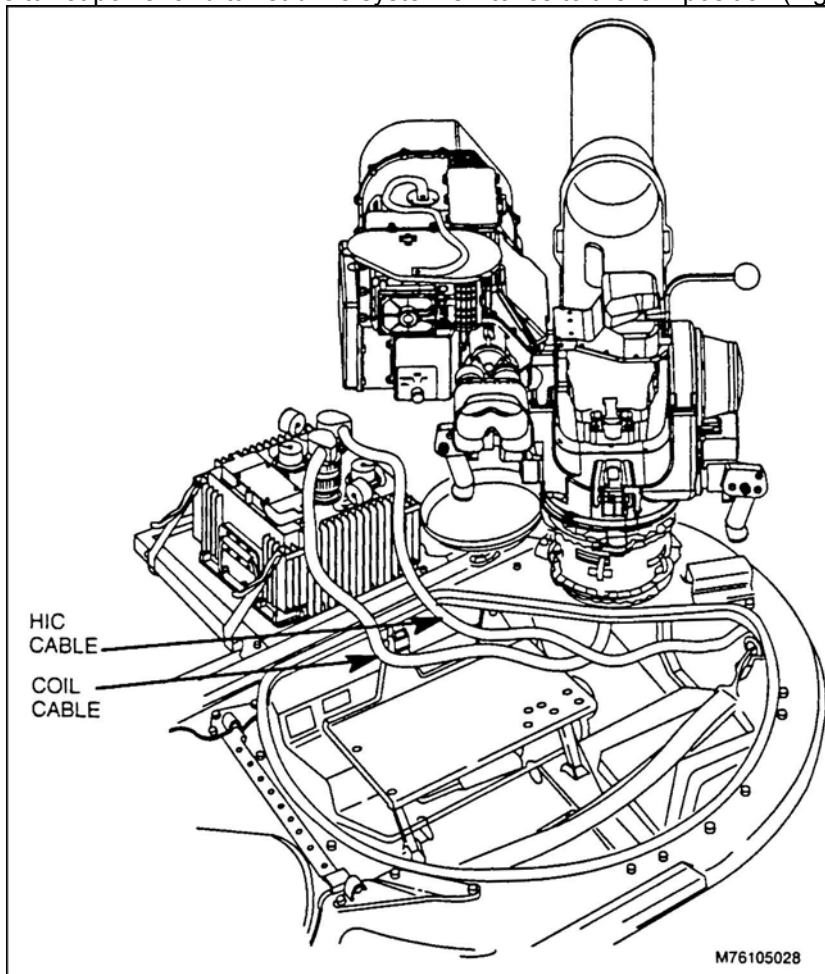

Figure 1. Turret power switch.
- a. Move the turret power and turret drive system switches to the ON position (Figure 1).